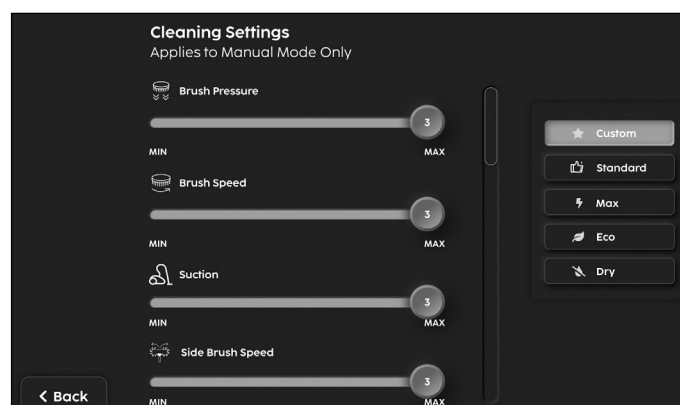

Figure 46
3. For 'Custom,' the sliders (**Fig. 46**) control the Brush Pressure, Brush Speed, Suction, Side Brush Speed, and Side Brush Pressure. Select your custom settings and select save.